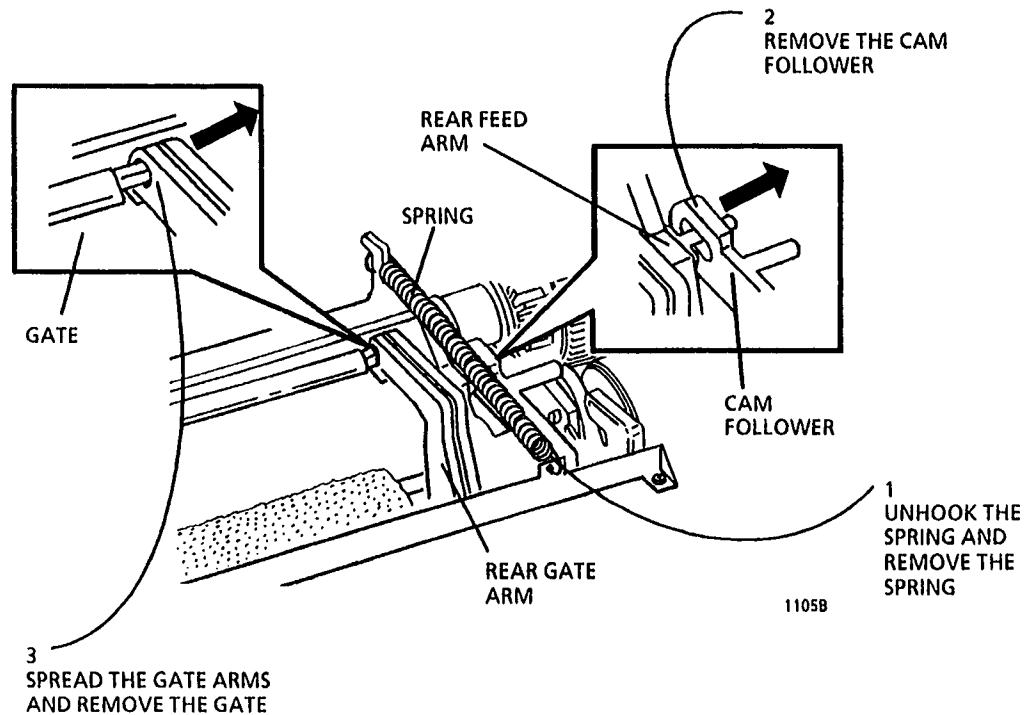

Figure 2. Preparing to Remove the Manual Feed Solenoid
3. (Figure 2): Preparing to remove the Manual Feed Solenoid.